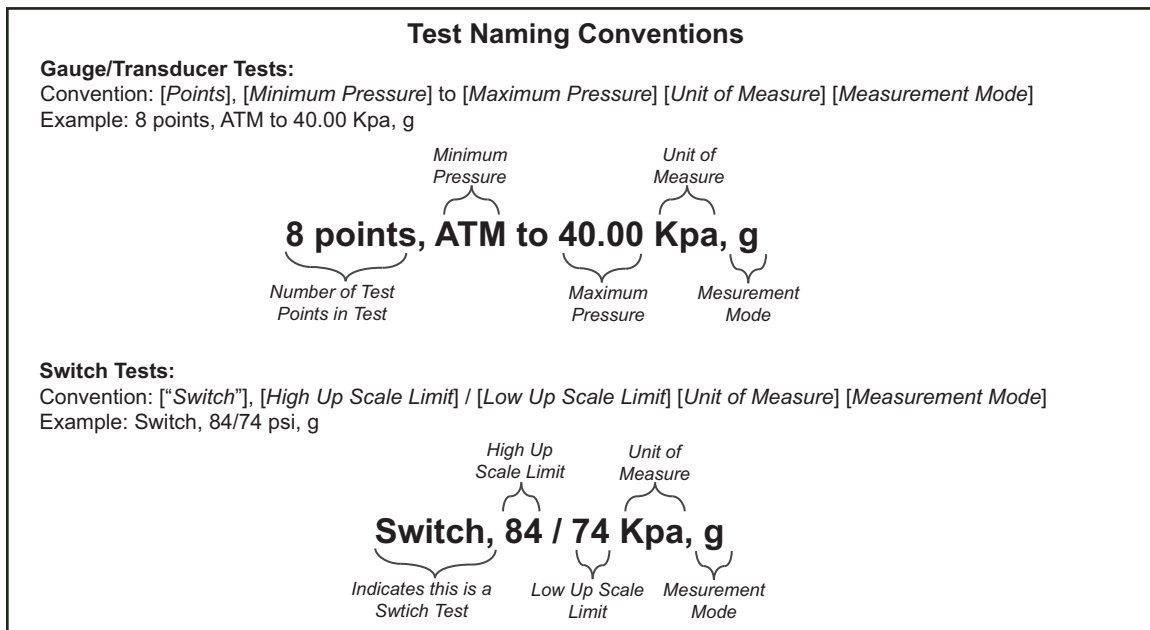

Figure 3-16. Test Name Convention
Each test has a specific naming convention so that the main parameters of the test can be seen in the filename. Once the test is selected, the other parameters of the test are shown on the test menu. The test naming conventions are illustrated in Figure 3-16.
*The tests name contains primary test information to help locate tests (see Figure 3-16).*